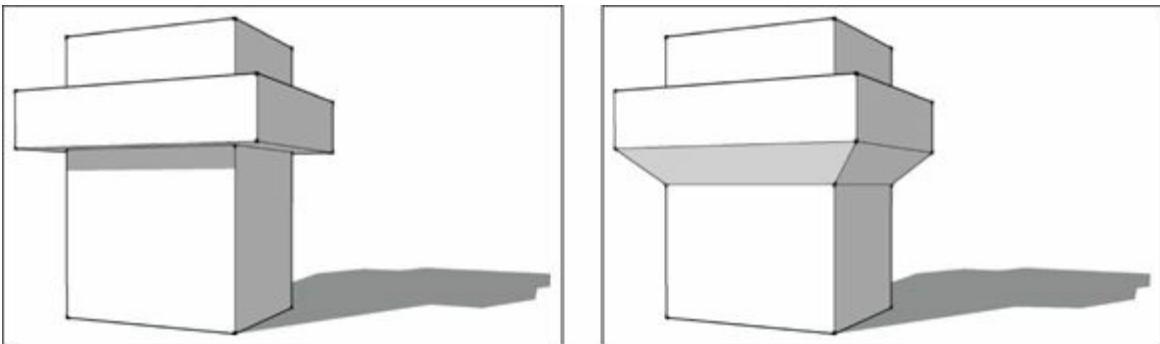

FIGURE 9-2: A chamfer can turn an unprintable 90-degree angle in to a printable 45-degree one.
- » **Try rethinking your angle.** Most printers can print a slope between 45 and 60 degrees from vertical without using support material. Keep this limit in mind as you design. Chamfers and fillets are great for supporting features and smoothing out rough transitions. In Figure 9-2, a chamfer turns a part with an unsupported overhang into an easily printable part. As an added bonus, fillets